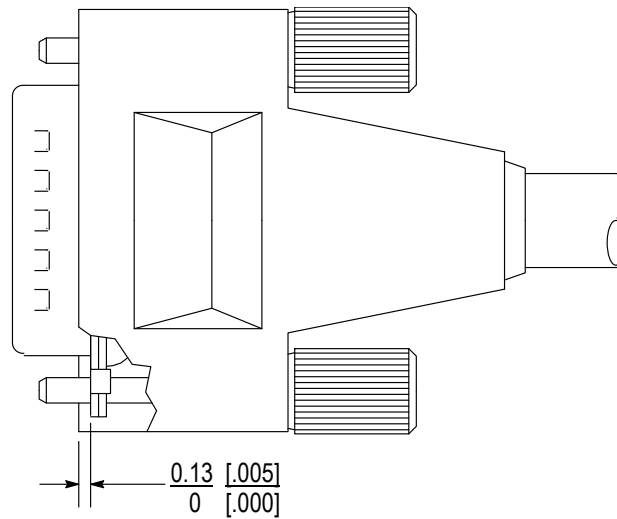

Figure 14
8. If included, push the enclosure over the connector until it is located as shown in Figure 14 and install the jackscrews.